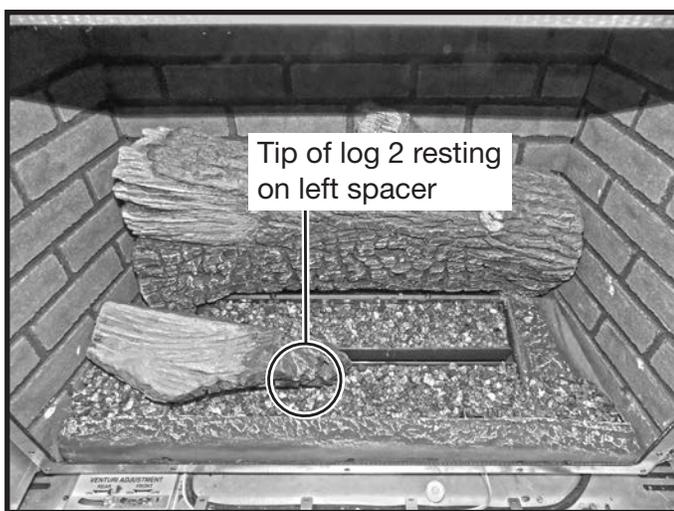

Figure 81: Log 2 positioned on spacer.
10. Place log number two (Figure 56) so that the post protruding from the bottom of this log can be inserted into the hole of the left base piece. Then position the front tip of the log so that it rests on top of the spacer (Figure 81). The log and the ember pieces should ideally hide the spacer.